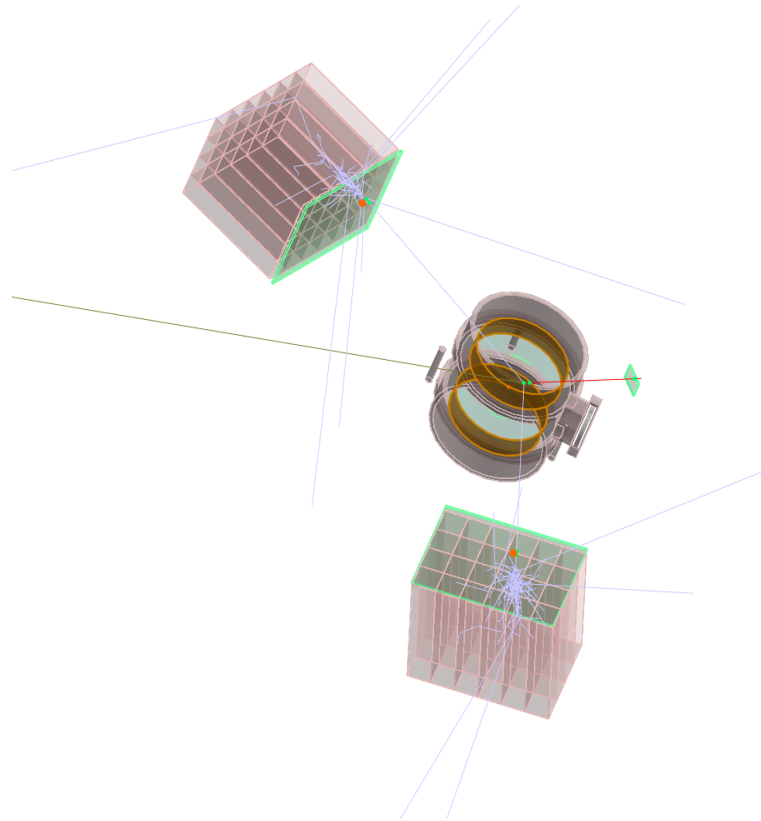

Figure 1: the physical setup
The physical setup can have different degrees of freedom (calorimeters are freely moved combining different distances and angles in respect to the target: see **Fig.1**) and its best geometry is roughly such a configuration when acceptances have maximum values.
The physical setup is constructed from a cylindrical liquid hydrogen target with radius 5cm, two calorimeters that make 2 arms of the setup and contain 6x4 sets of CsI crystals, a monitor counter before the target, 2 veto counters before the calorimeters and various target constructive elements. The calorimeters will detect decay products of the output particle (π^0 or η). The most intensive decay mode for the both particles is 2γ . The 2 arms of the setup are responsible for catching the gammas and collect their energies. The setup is depicted on **Fig.1**.
2. There is one important restriction on the distribution of studied interaction vertices: it must be uniform along the beam path in the target. From the point of view of an engine which samples vertices of studied interaction in the target, it means that if geometry of the target makes path length of beam particles depend on position of the particle on the beam projection, then probabilities of interaction sampling must differ for different positions of the particle on the beam projection. For physical setup on **Fig.1** particles on left and right edges of a wide beam projection will only scratch left or right edges of the cylindrical target, and an interaction sampling engine must miss most of interactions for such edgy particles to ensure uniform distribution of interaction vertices in the target.